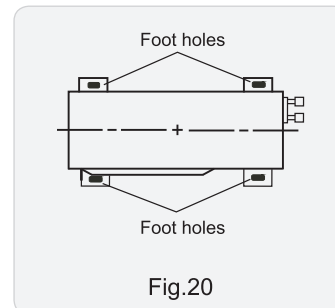

Fig. 20
- (1) Place the outdoor unit on the support.
- (2) Fix the foot holes of outdoor unit with bolts. (As show in Fig.20)